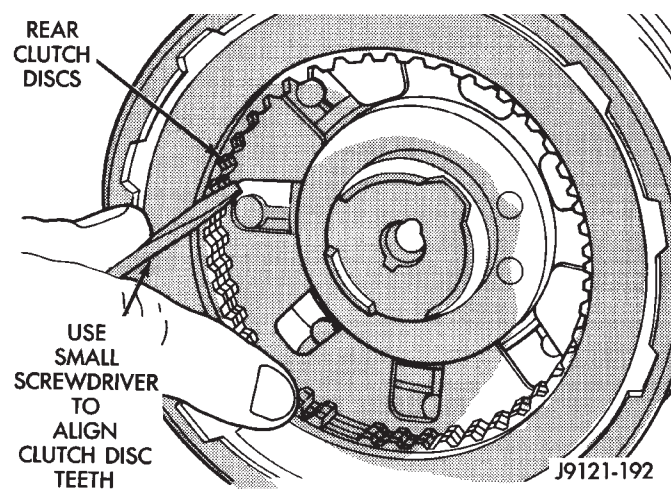

Fig. 158 Aligning Rear Clutch Disc Lugs
(23) Align drive teeth on rear clutch discs with small screwdriver (Fig. 158). This makes installation on front planetary easier.
(24) Raise front end of transmission upward as far as possible and support case with wood blocks. Front/rear clutch and oil pump assemblies are easier to install if transmission is as close to upright position as possible.